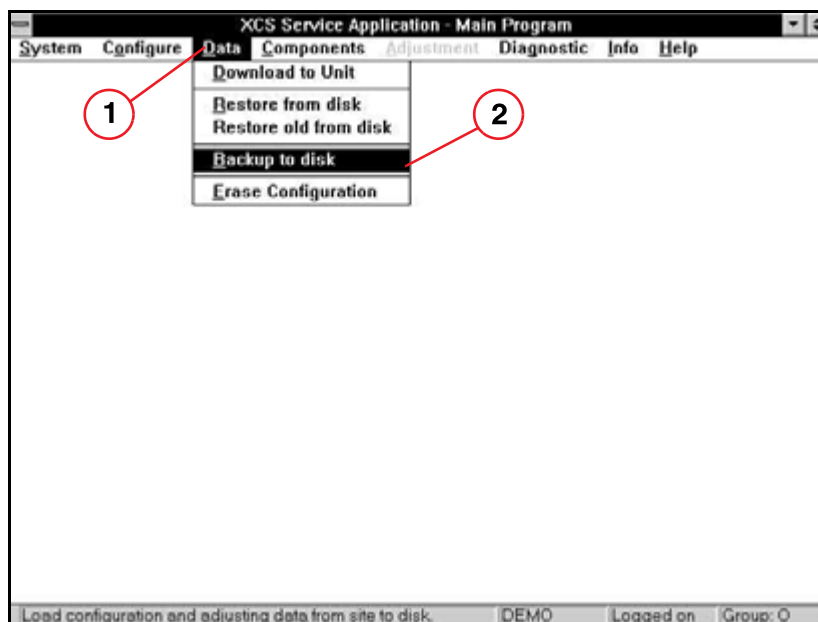

Fig. 17:
- Select the menu **Backup to disk** (Fig. 17 / p. 39).